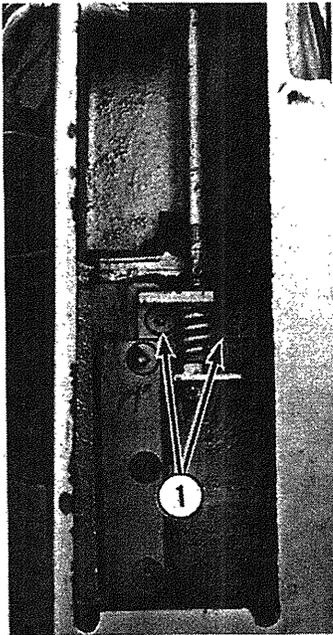

Fig. 6-4
- D. Lower bowl support to its lower position and remove two cap screws (1, Fig. 6-4).
- B. Install cap screws (1, Fig. 6-4).